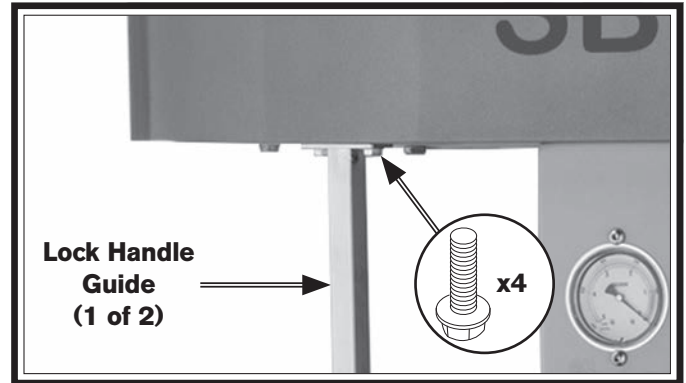

Figure 12. Housing assembly secured to rear panel and lock handle guides.
- Attach housing assembly to lock handle guides with (4) $\frac{5}{16}$ "-18 x $\frac{1}{2}$ " flange bolts (see **Figure 12**).